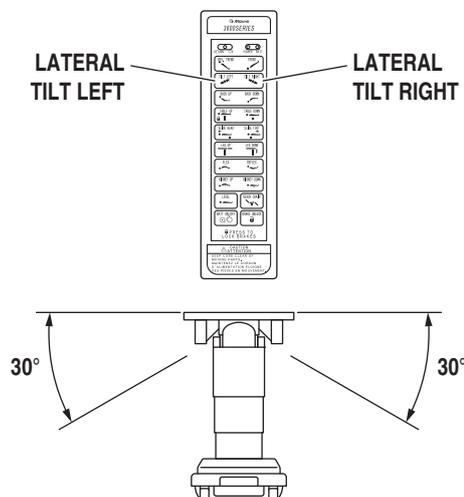

Figure 2-8. Lateral Tilt Positioning
c. Lateral Tilt To achieve lateral tilt right (as viewed from the head end of the table), press the TILT RIGHT button (figure 2-8). To achieve lateral tilt left, press the TILT LEFT button. Tilt of up to 30° may be obtained.